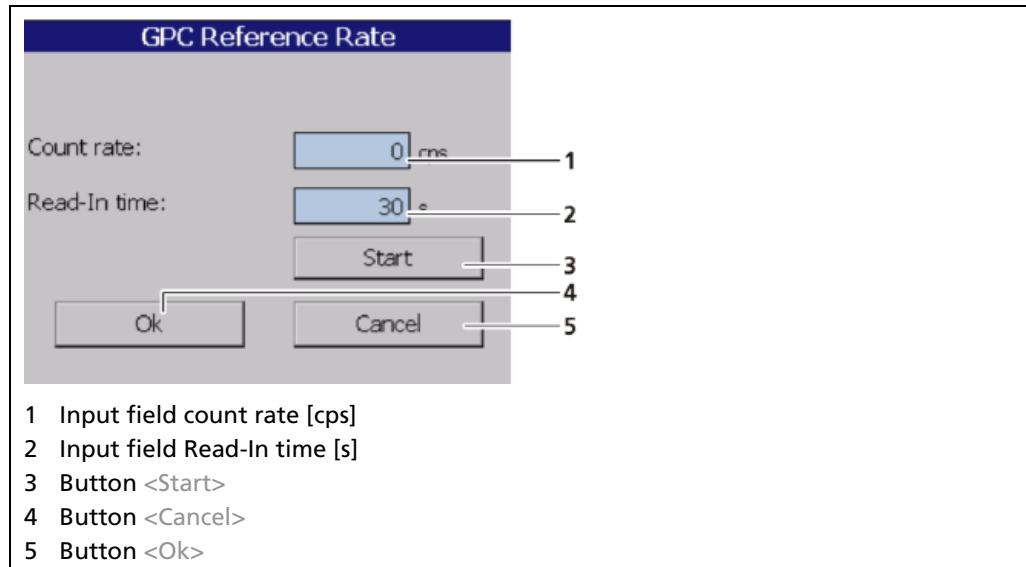

Fig. 80 GPC Reference Rate
► A new window "GPC Reference Rate" opens (Fig. 80).
2. Click on the "Read-In time" field (Fig. 80, item 2) and specify the duration of measurement in seconds. The higher you set the measurement time, the more accurate the result.
The value of the count rate may be entered manually (Fig. 80, item 1), if a determination of the unique reference count rate is not possible.